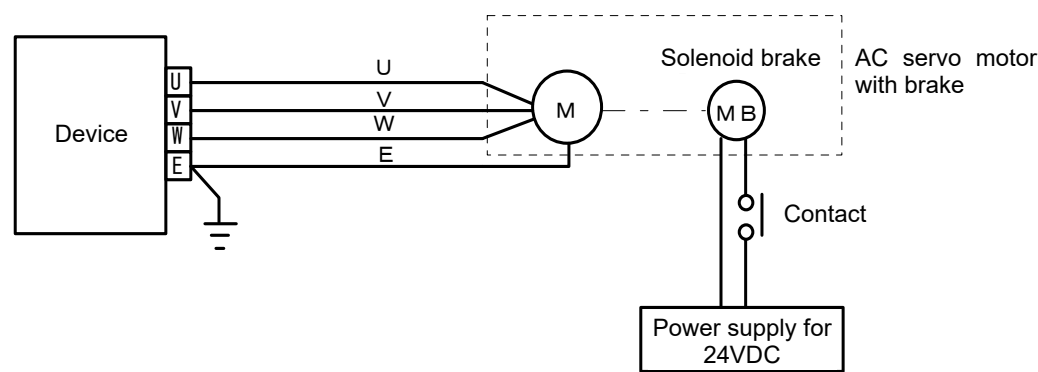

Figure 3-12 Connection of power supply for SM motor brake
- (1) Our brake for motor is a sustaining brake during the stop time. The brake is of a de-energization operation (adsorption) type.
- (2) The brake release (disconnection) start time is about 0.5 second from the application of voltage.
- (3) Connection of power supply for brake is shown in Figure 3-12.